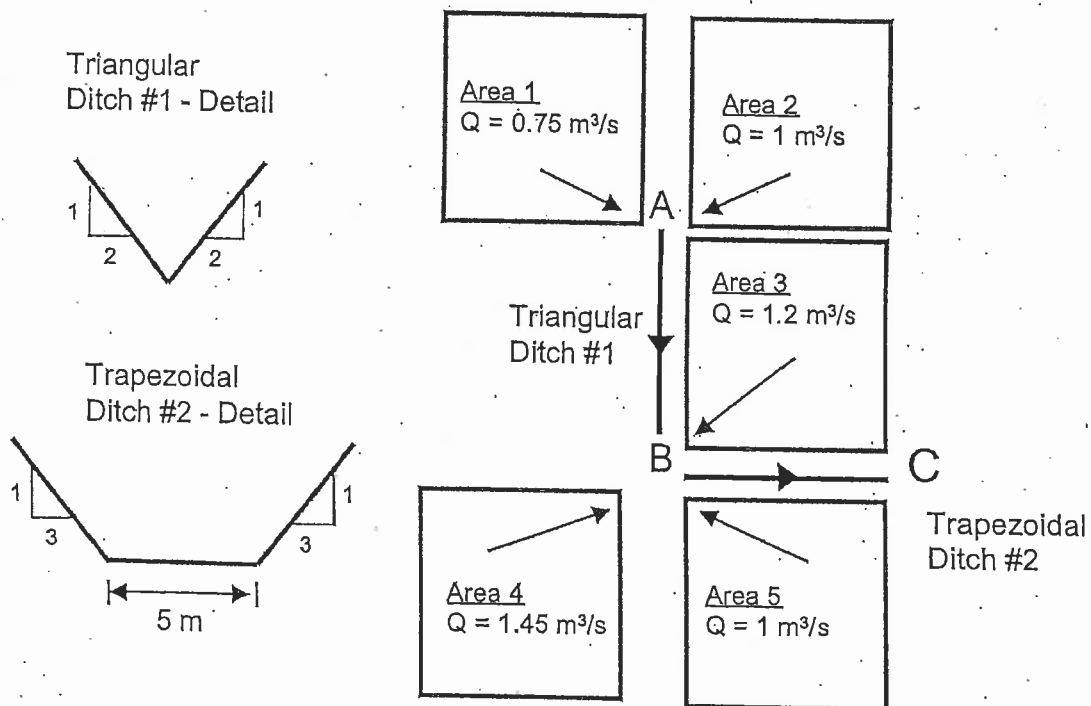

Figure 4: Drainage areas and design details of Ditches #1 and #2.
5. The sub-division indicated in Figure 4 is comprised of five drainage areas that drain to two ditches. The runoff from each drainage area is indicated in Figure 4. Ditch #1 conveys the runoff from Areas 1 and 2, and Ditch #2 conveys the runoff from Areas 1 to 5. Ditch #1 (from points A to B) will have a triangular cross section with 2:1 side slopes, a length of 500 m, a longitudinal slope of 0.5%, and will be covered with grass (Manning's  $n=0.045$ ). Ditch #2 (from points B to C) will have a trapezoidal cross section with 3:1 side slopes, a 5 m wide bottom, a length of 400 m, a longitudinal slope of 0.3%, and will be covered with grass (Manning's  $n=0.045$ ). Determine the design height of Ditches #1 and #2 to convey the flows from the five drainage areas.